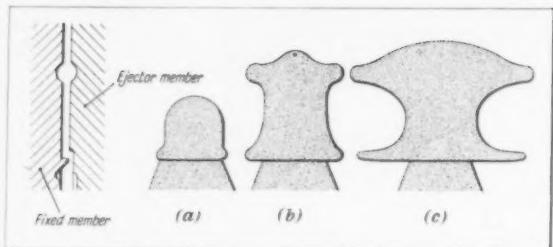

Fig. 10. Metal flow in relation to a transverse enlargement of the section.
**T**HE ORIENTATION of ribs and other features involving local changes of section, in relation to the gate, is accordingly of primary importance. If the advancing edge meets a heavy rib section transversely, as in Fig. 10, the effect is to retard, momentarily, the forward movement as metal flows laterally along the rib, but the sideways movement through the thin section on the near side of the rib continues. Feeding into the rib thus proceeds on a widening front, to increase the lateral flow rate within the rib and straighten out the advancing metal front in the thin section on the far side of the rib. This effect is indicated by the sketches *a*, *b*, and *c* in Fig. 10.